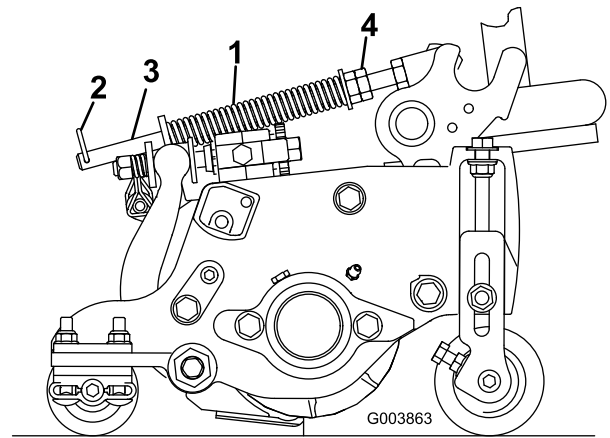

Figure 14
2. Tighten the hex nuts on the front end of the spring rod until the compressed length of the spring is 5 inches (12.7 cm) on Reelmaster 5210 & 5410, 5 inch cutting units or 6.25 inches (15.9 cm) on Reelmaster 5510 & 5610, 7 inch cutting units (Figure 14).
The turf compensation spring (Figure 14) transfers weight from the front to the rear roller. (This helps to reduce a wave pattern in the turf, also known as marcelling or bobbing.)
1. Make sure the hairpin cotter is installed in the rear hole in the spring rod (Figure 14).